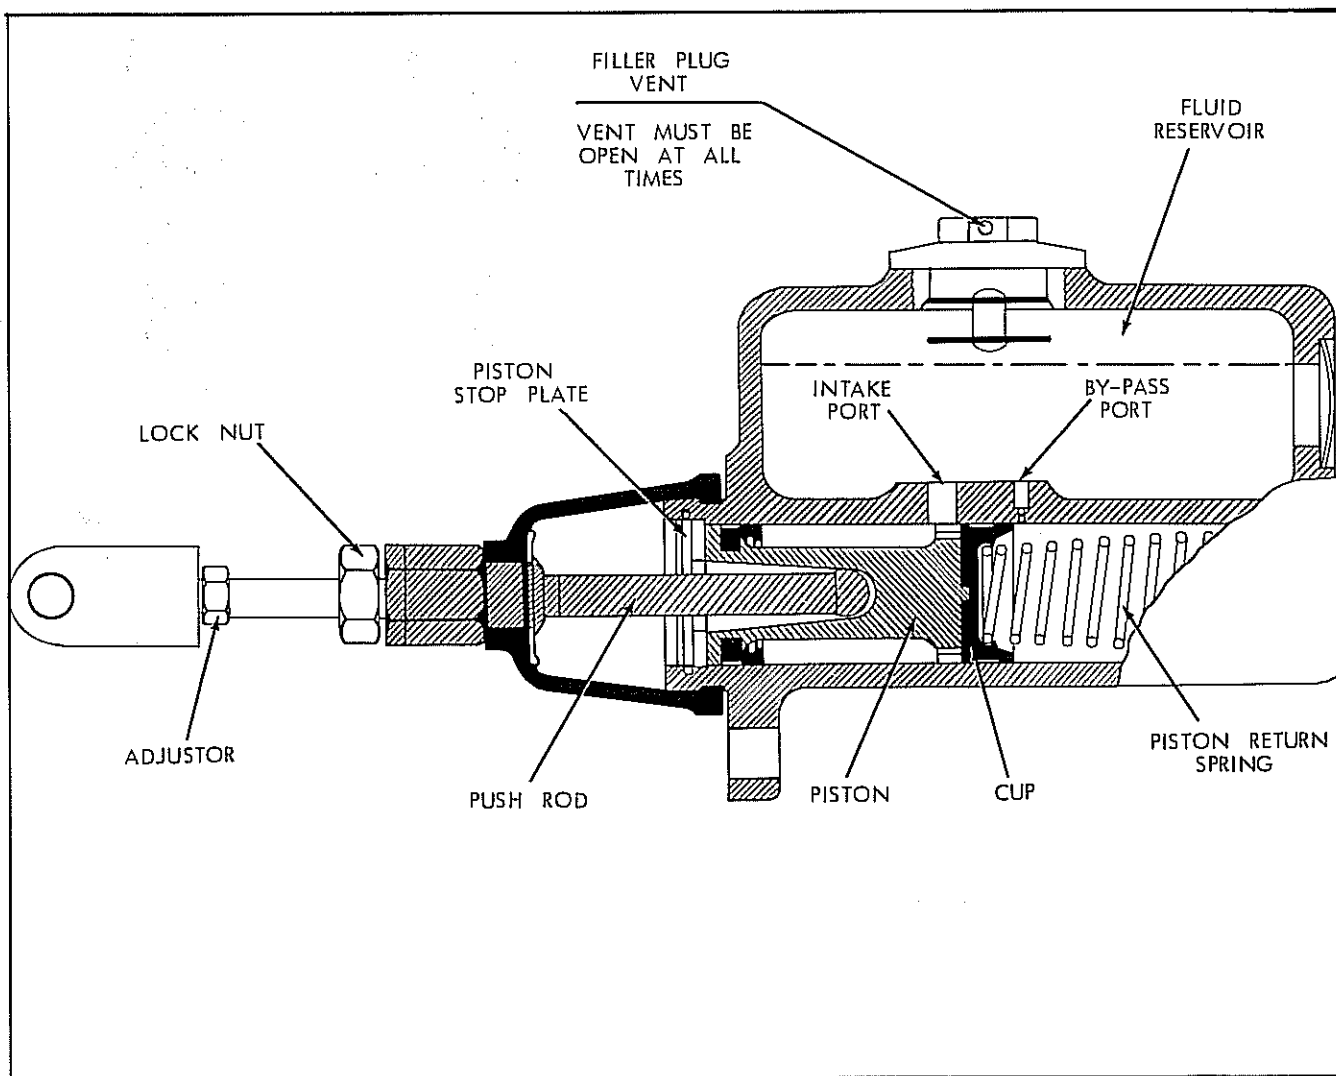

Figure 303a. Brake Pedal Adjustment
1. Loosen lock nut, see Figure 303a.
Master Cylinder Filler Cap Vent Hole: Check cap vent hole for obstruction. Vent hole must be open at all times. Clean if necessary, see Figure 303a.